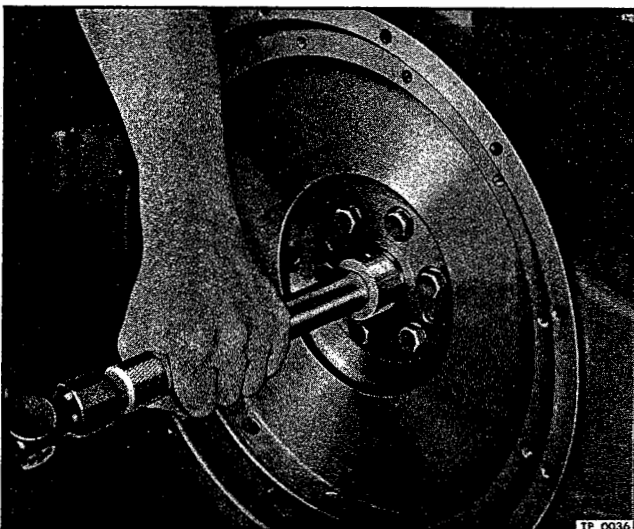

Figure 6—Pilot Bearing Installation
2. Using driver to apply pressure at bearing outer race (fig. 6) drive pilot bearing into place in flywheel. Bearing race must bottom against shoulder in flywheel bore.